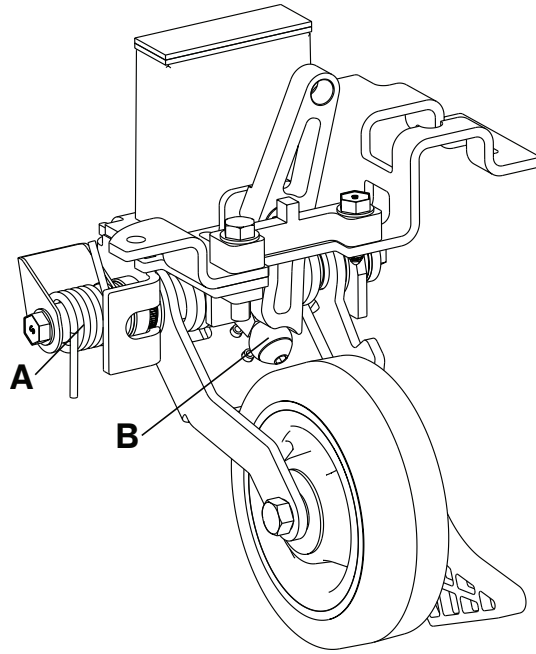

Figure 3 – Retractable fifth wheel lubrication
3. Apply MPG-3 grease to the spring (A) and roller (B) (Figure 3).